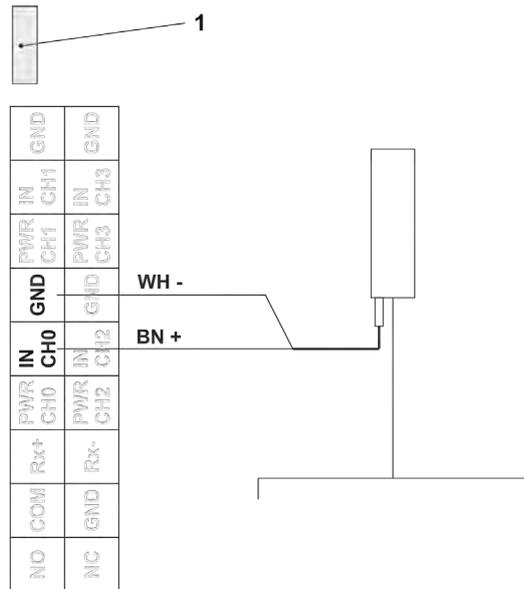

Fig. 28-5 Connecting a Rain Gauge
1. Plug the enclosed jumper (short circuit bridge) (Fig. 28-5 Pos. 1) onto the two empty pins next to the terminal strip.
2. Connect the brown and white wires to the terminal strip according to Fig. 28-5. The two remaining wires (green and yellow) are not used.